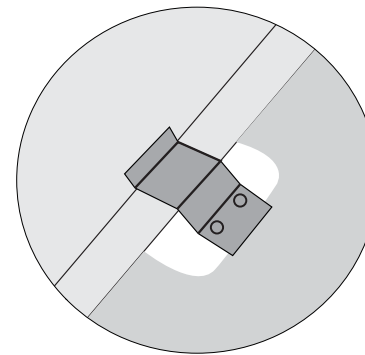

Figure 4.9
1. Place the Side Panel (part L) onto the underside of the bath (Part J) and Install 4 x End Panel Clips (Part K) with short self tapping screws (Part D). After all 4 are fitted back the screws off half a turn and remove the side panel (Part L) (See figure 4.9)